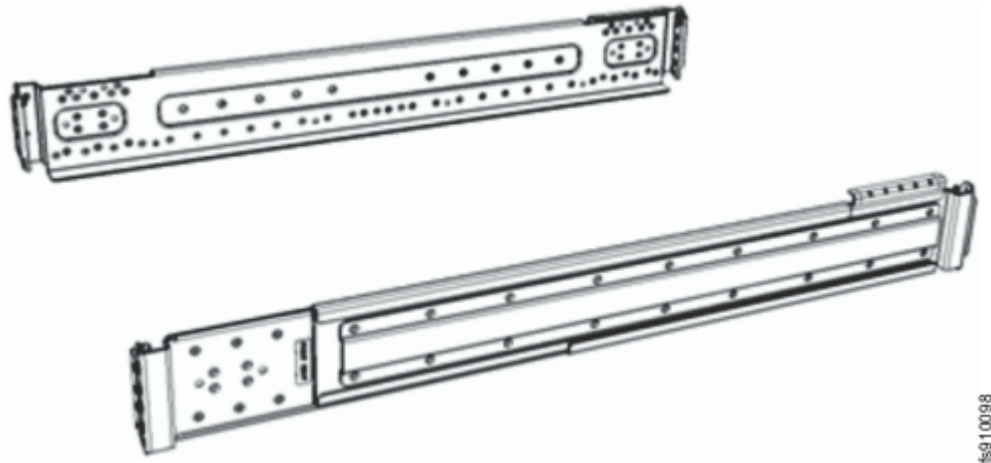

Figure 27. Control enclosure support rails
1. Locate the control enclosure rails, as shown in Figure 27 on page 64.